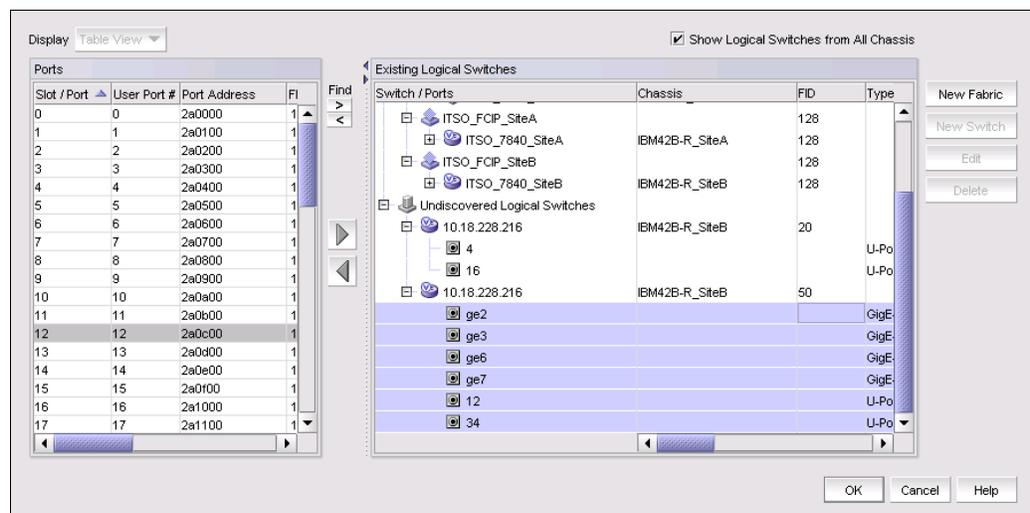

Figure 6-33 Assign ports to base logical switch
- Assign physical ports to this logical switch (Figure 6-33). Here we assign the following ports: One port (Port 12) for IFL connection to the other logical switch that will be created later, four GE ports (ge2, ge3, ge6, ge7), and one VE port (34) for FCIP tunnel connection.